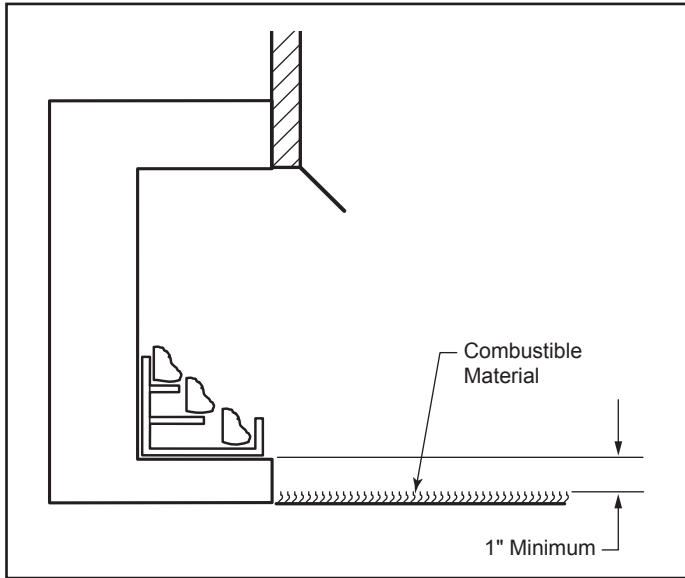

Figure 6.4 Minimum Clearance Above Combustible Flooring
5. Floor clearance: This inner chamber firebox floor must be installed at least 1" above any combustible flooring material, such as carpeting or asphalt tile, which is closer than 14" to the base of the firebox. See Figure 6.4.